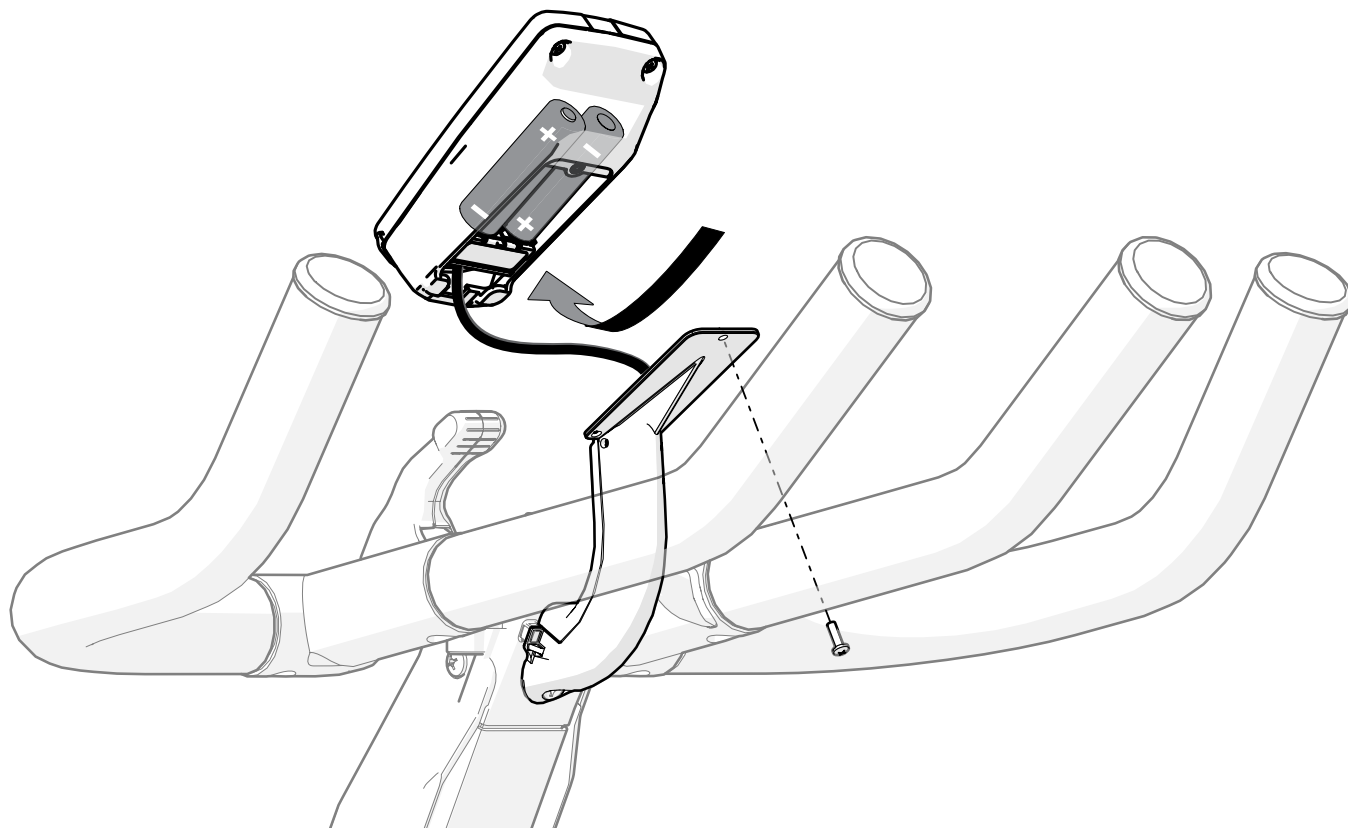

Figure 22. Bike Battery Replacement
1. Remove the screw that secures the Computer Display to the Mount using a #1 Phillips screwdriver (refer to Figure 22).